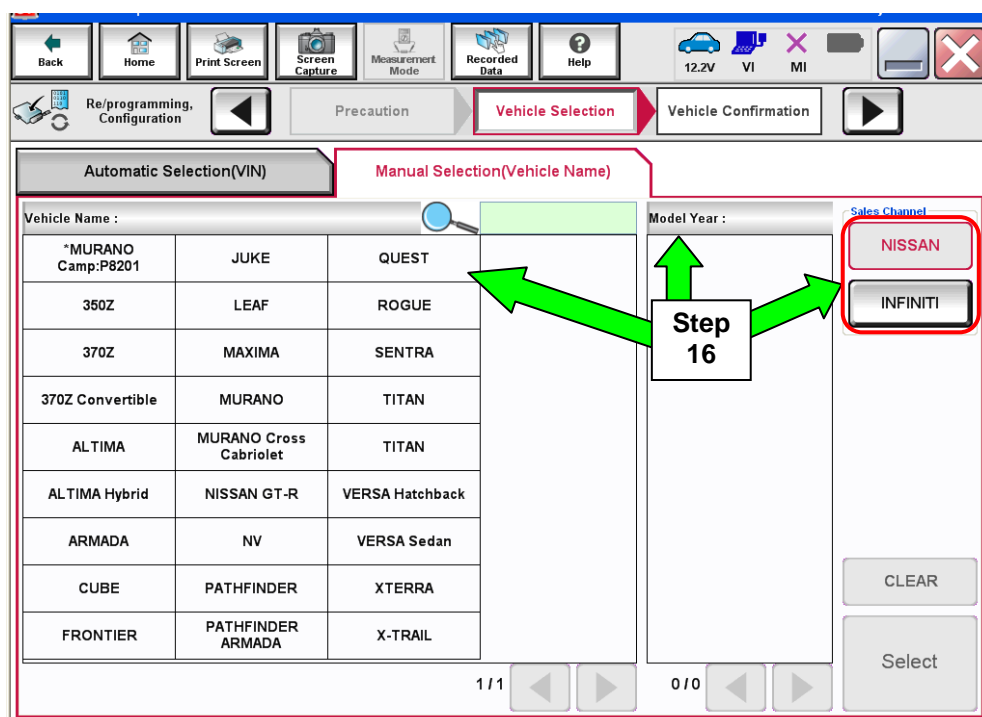

Figure 5
- If the screen in Figure 5 does not display, skip to step 17.